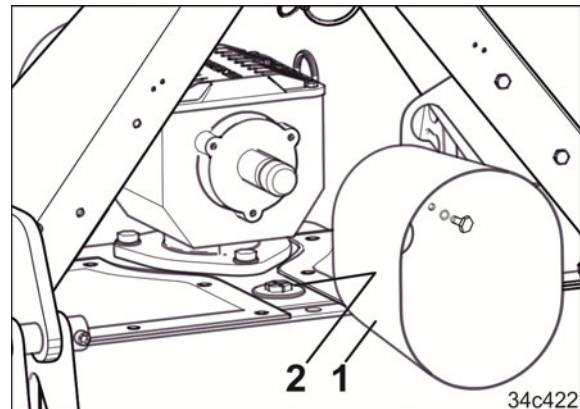

Fig. 181
2. Screw off the protective cap (Fig. 181/1).
3. Open the plug seals (Fig. 181/2).